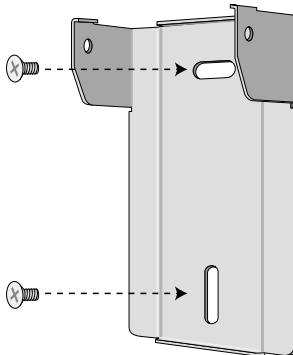

Figure 5 Attaching the Wall-mounting Bracket to the Wall
4. Position the wall-mounting bracket on the wall and, using two Phillips-head screws (provided), secure the bracket to the wall. See Figure 5.